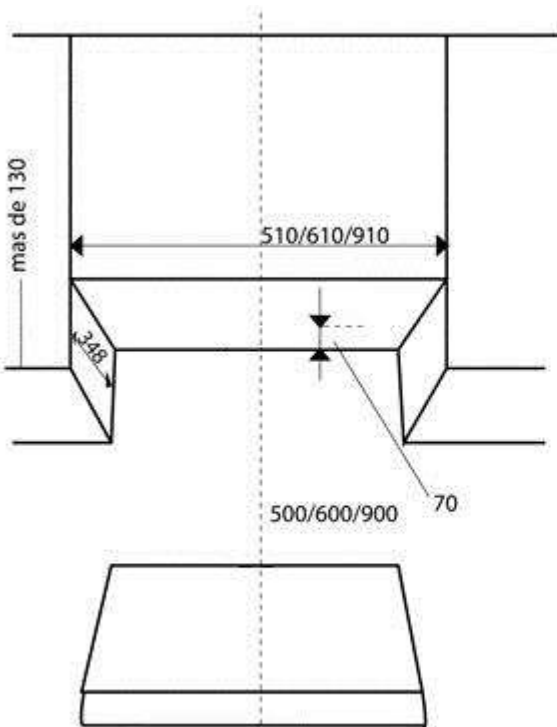

FIG. 5
1. As shown (Fig. 5), drill a hole 133 mm in diameter in the cabinet check the position of the socket and consider whether the appliance's power cord reaches the outlet.